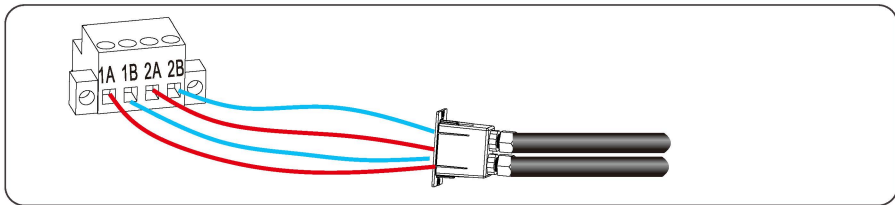

Figure 5.20 RS485 Terminal block connection
Step 4 Connect RS485 differential positive and negative signal of data logger to terminal 1A and 1 B of inverter, and connect terminal 2A and 2B of the inverter to terminal 1A and 1 B of another inverter. Figure 5.20.